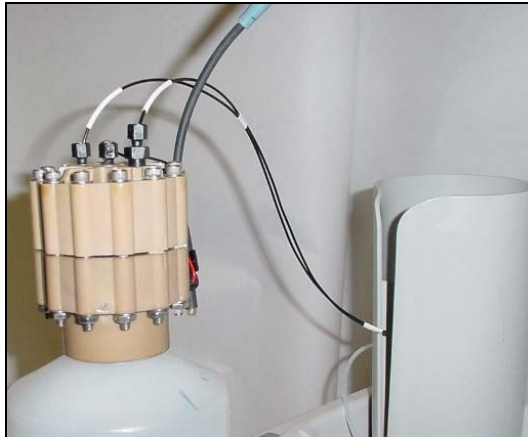

Figure 85. Dionex EluGen Cartridge Port Connections
4. Connect the **EGC IN** line to the Dionex EluGen cartridge **INLET** port (see Figure 85).